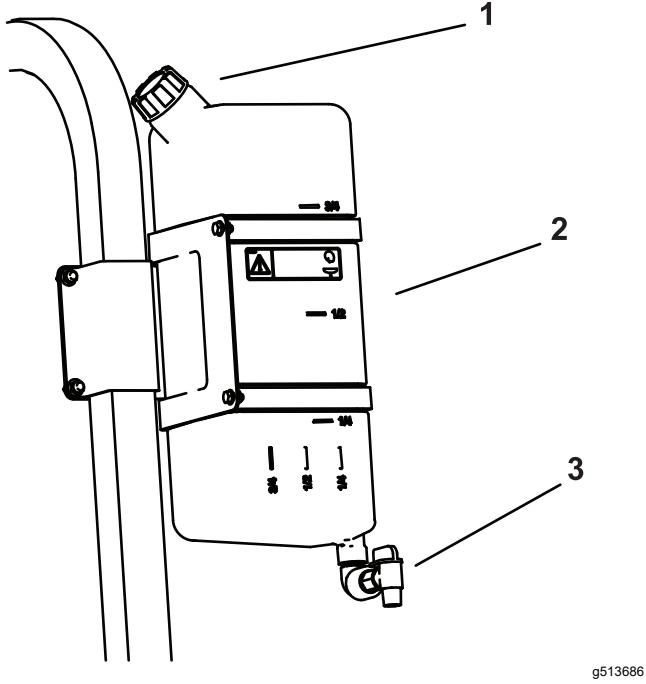

Figure 72
- To fill the tank, unscrew the cap at the top of the tank, fill the tank with fresh water, and install the cap (Figure 72).
- To open the fresh-water tank spigot, turn the lever on the spigot (Figure 72).